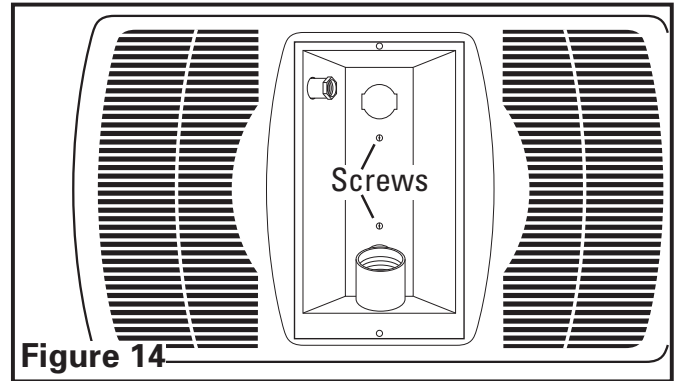

Figure 14
4. Attach light reflector in place with the two screws removed during Step 2 in SECTION 1 Preparing the Unit so grill fits snugly against ceiling (Figure 14).